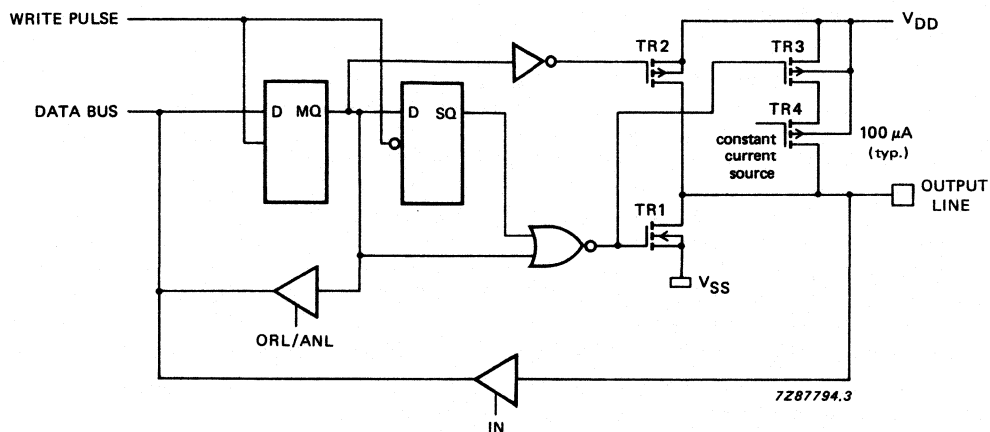

Fig. 12 Push-pull output.
- Option 3 – **PUSH-PULL OUTPUT**; drive capability of the output is 1,6 mA (min.) at  $V_{DD} = 5\text{ V}$  in both polarities. To avoid a large current flowing through the output transistors during the input mode, these push-pull pins must only be used as outputs (Fig. 12).